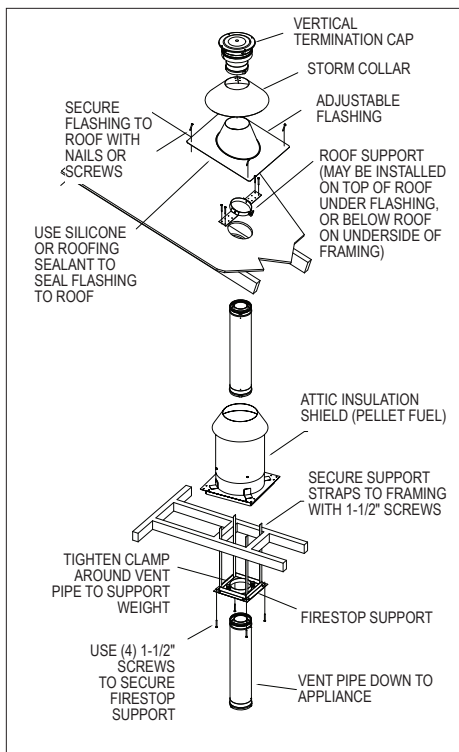

Figure 9
4. Install Firestop Support(s). At each framed floor opening, install a Firestop Support. The Firestop Support is listed to support up to 40-ft of CVS vent pipe. The Firestop Support is installed from underneath the opening, held in place by (4) 1-1/2" wood screws in the corners (**Fig.9**). From the other side, extend the straps of the Firestop Support and secure them to nearby framing members with additional 1-1/2" wood screws. As the vent passes through the Firestop Support, install the clamp around the vent and tighten with the screws provided, so the weight of the vent is supported by the Firestop Support (**Fig.9**).
As the CVS vent passes through the roof, install a Roof Support at the roof level to hold the vent in place, if there are no Wall Straps within 8-ft (**Fig.9**). The Roof Support is clamped around the vent pipe and is secured to the topside or underside of the roof with at least (4) nails or wood screws.
applicable. Use appropriate roofing sealant to weatherize the flashing to the roof, and secure the flashing in place using at least (4) roofing nails/screws per side of the flashing (**Fig.9**).
also meet any additional height requirements as specified in the appliance manufacturer's installation instructions. Once the required vent height has been reached, twist-lock the Vertical Termination Cap onto the top section of CVS vent pipe to complete the Vertical Installation (**Fig.9**). If more than 4 feet of CVS extends above the roof, then the vent pipe will need to be supported.